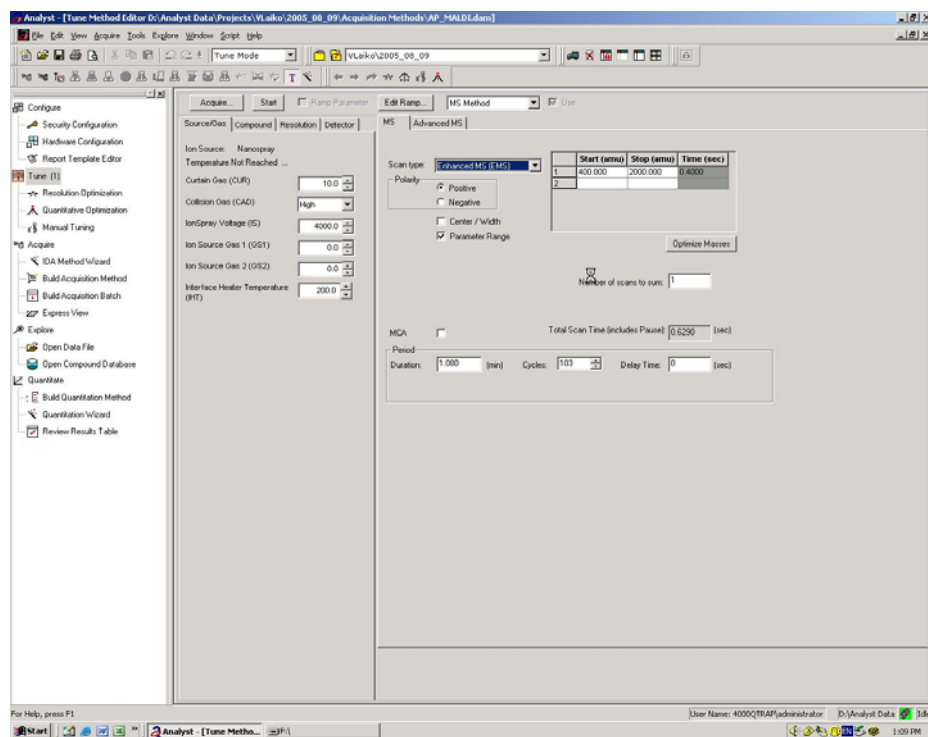

Fig. 7-19 Good parameters for AP/MALDI measurements.
- Typical parameters that represent a good starting point for AP/MALDI measurements are shown in Fig. 7-19 and 7-20.
AP/MALDI, it is recommended that you set Ion Source Gas 1 and Ion Source Gas 2 to zero (Fig. 7-19).